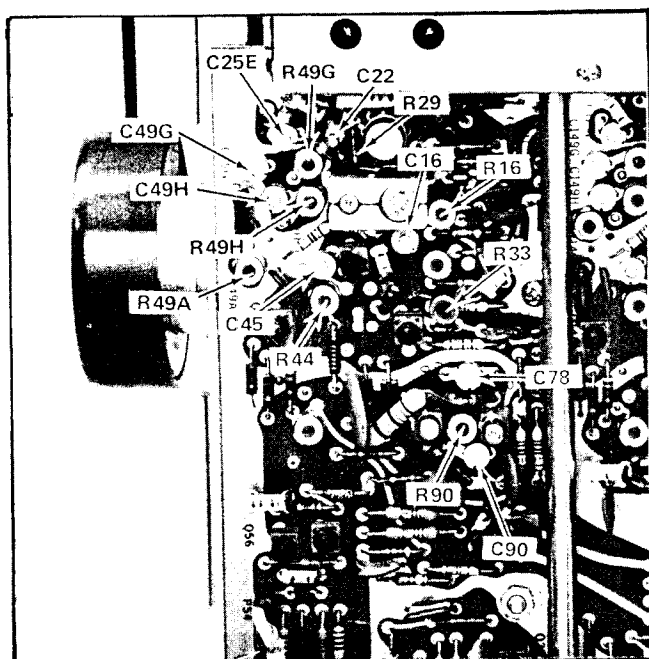

Fig. 5-11. Location of CH 1 compensation adjustments.
g. ADJUST—If the CRT display exceeds the limits of the CHECK-step, use the following adjustment procedure. See Fig. 5-11 for location of adjustments.